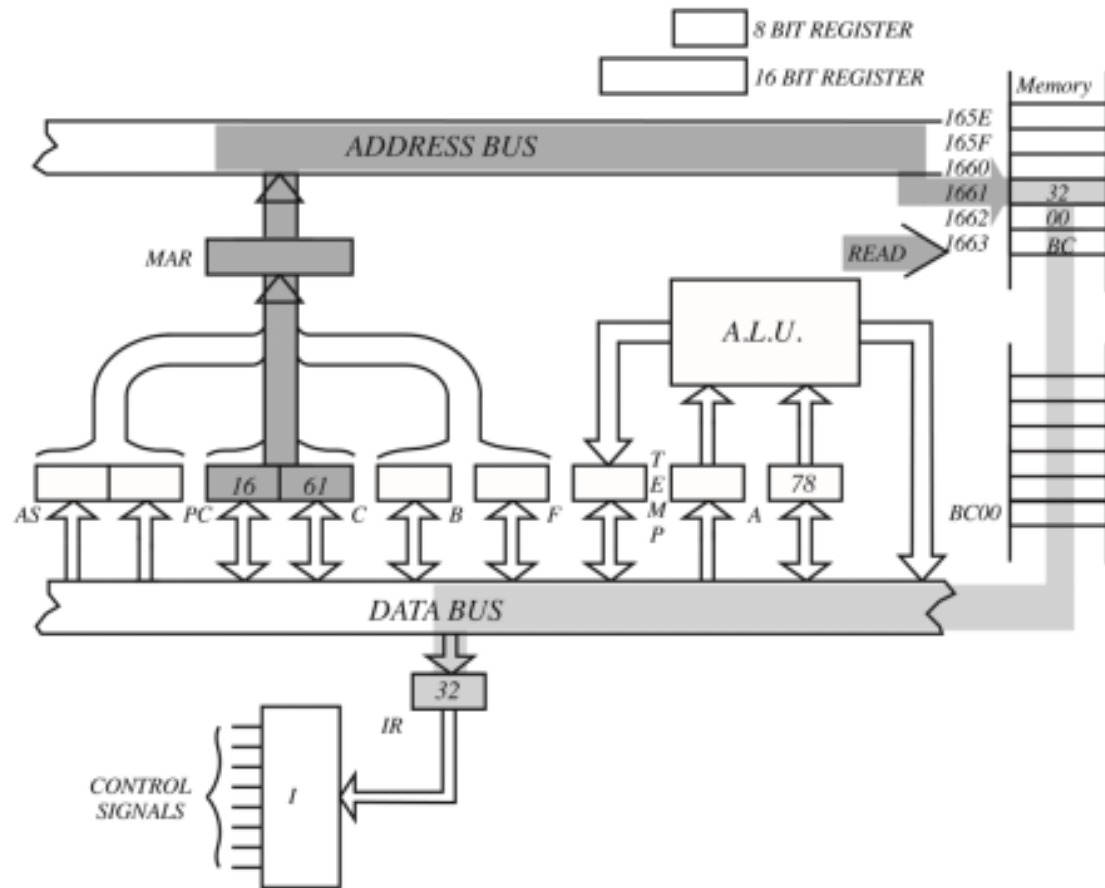

FIG. 3
- (ii) Use the diagram shown in FIGURE 3 to briefly explain the fetch/execute cycle of a microprocessor for the instruction 32 00 BC. The instruction is stored in memory locations 1661 to 1663. The op code means 'store the contents of the accumulator in memory address location'. The address given is in the reverse order. The contents of the accumulator are 78H. Indicate the contents of the PC, AS, registers, accumulator and address BC00 after the cycle is completed.